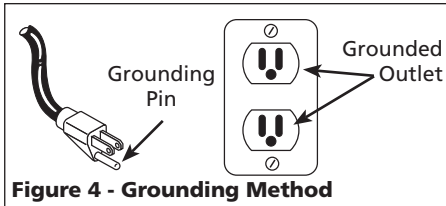

Figure 4 - Grounding Method
- This product is for use on a nominal 120 volt circuit and has a grounding plug that looks like plug illustrated in Figure 4. Make sure that product is connected to an outlet having same configuration as plug. This product must be grounded. In the event of an electrical short circuit, grounding reduces risk of electrical shock by providing an escape wire for electric current. This product is equipped with a cord having a grounding wire with an appropriate grounding plug.